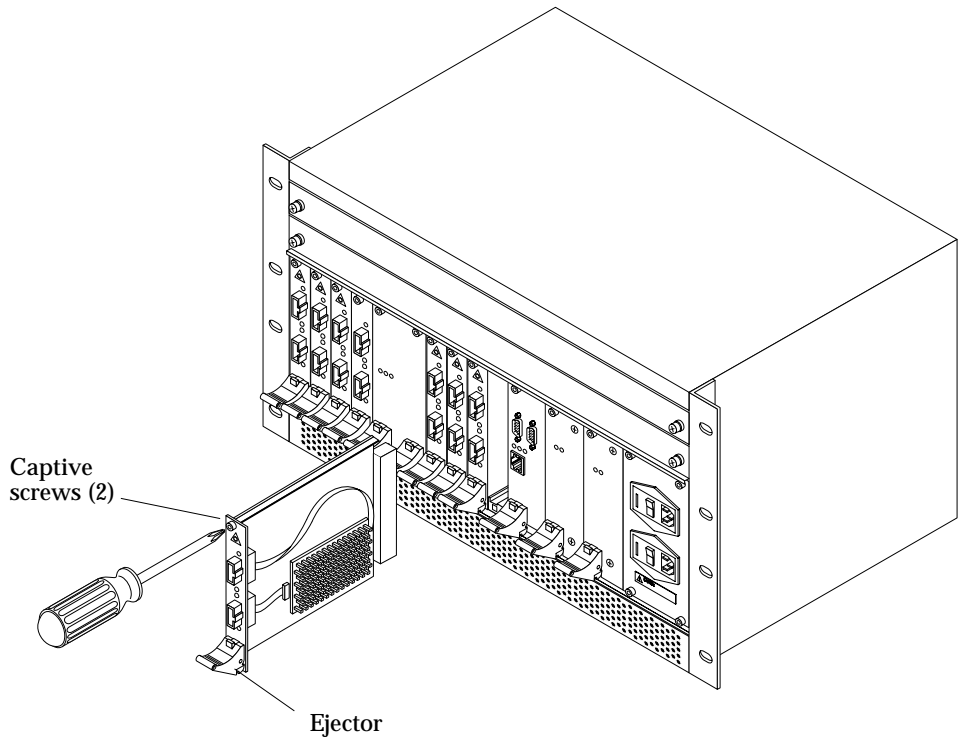

FIGURE 4-1 Replacing an Optical Module
3. **Loosen the captive screws at the top and bottom of the module (FIGURE 4-1).**
3. Ensure that the replacement module ejector is unlocked by depressing the ejector red lock button (FIGURE 4-1).